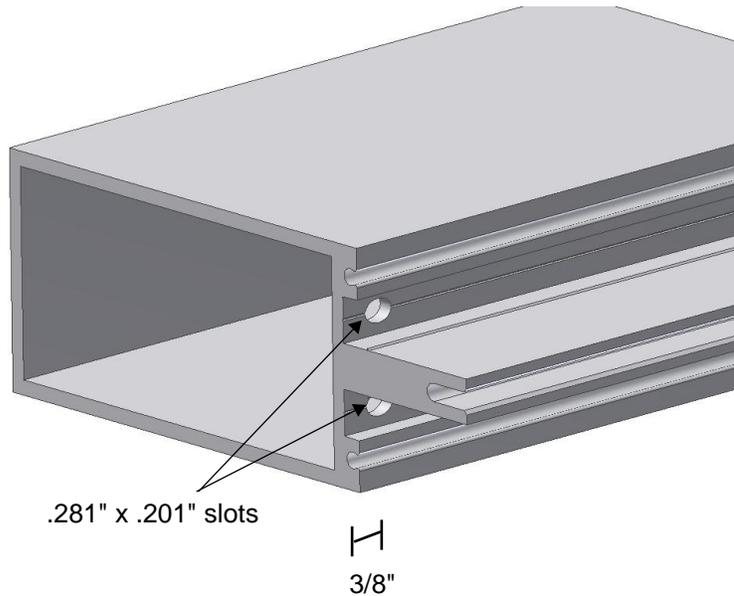

Figure 4: Drill slots in the horizontal member.
- The slots are .281" x .201" in diameter and centered 3/8" from the end of the horizontal member, on the V-shaped groove in the extrusion, as shown in Figure 4.